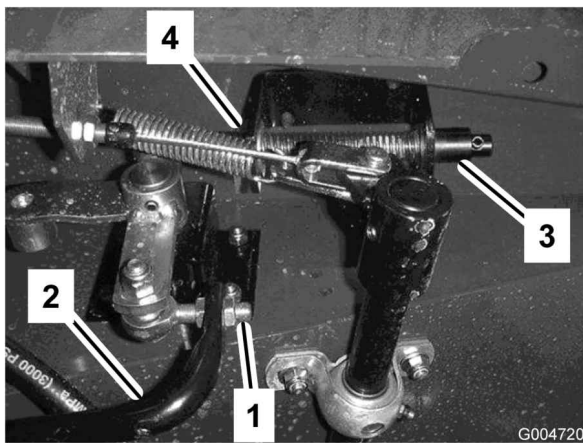

Figure 68
3. Loosen the jam nuts on the rod end and adjust the traction rod length (Figure 68) so that the pedal contacts the pedal stop when the pump lever reaches full stroke. Secure the jam nuts.
3. Fill the reservoir (Figure 68) with approximately 8 gallons (30 l) of hydraulic fluid; refer to Checking the Hydraulic Fluid.